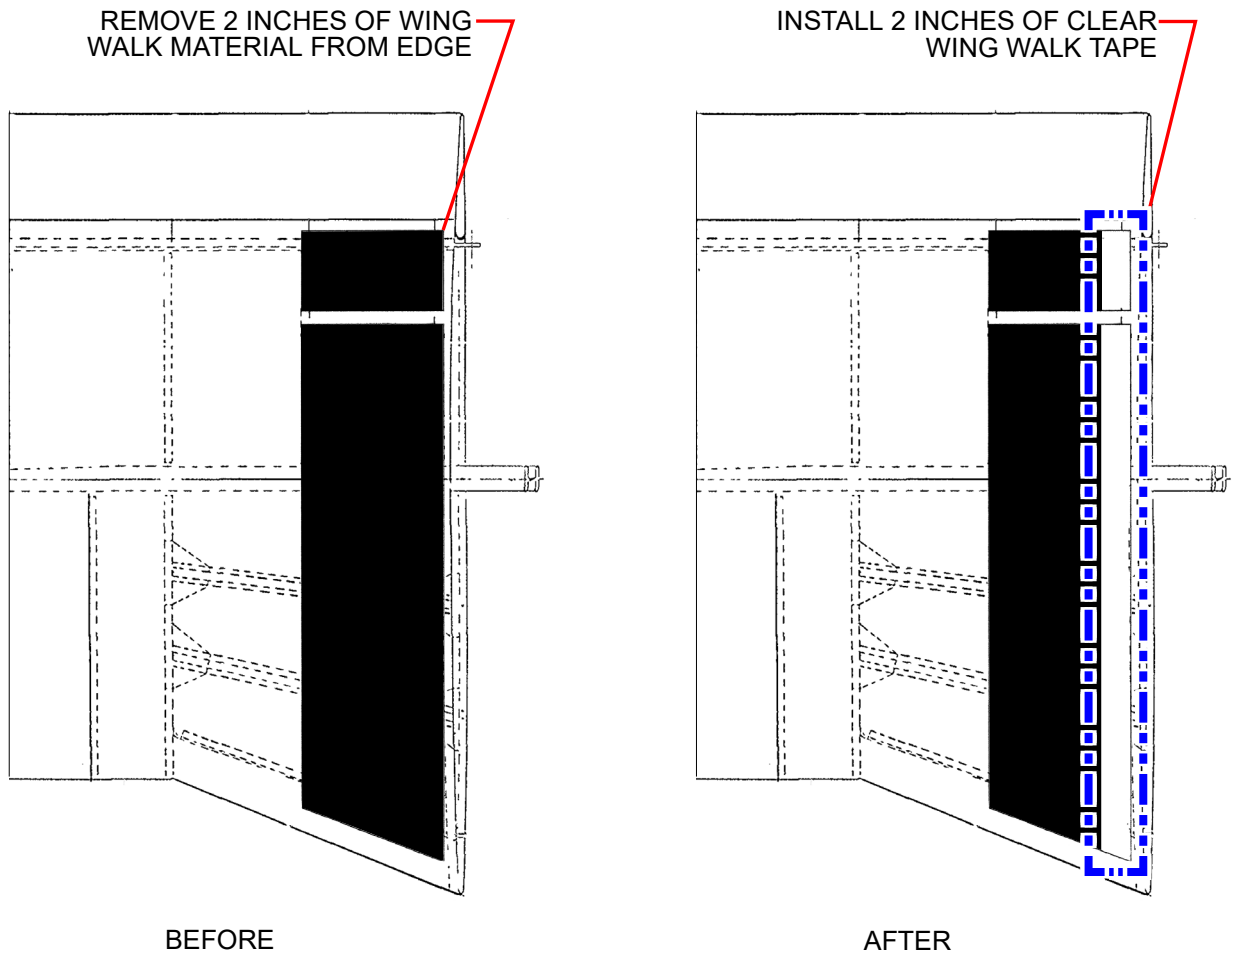

Figure 2
1. Locate the wing walk, as shown in Figure 2.
2. Remove two (2) inches of wing walk material at the location indicated in Figure 2. While the wing walk material is removed, inspect the wing skin for cracks. If cracks are found, replacement of the wing skin and pan is required. Otherwise proceed to step 3.
3. Install a two (2) inch wide strip of 3M Safety-Walk clear wingwalk tape, 3M ID 70070548980, or equivalent transparent slip-resistant wing walk tape, where the original wing walk material was removed. Refer to the manufacturer for installation instructions.